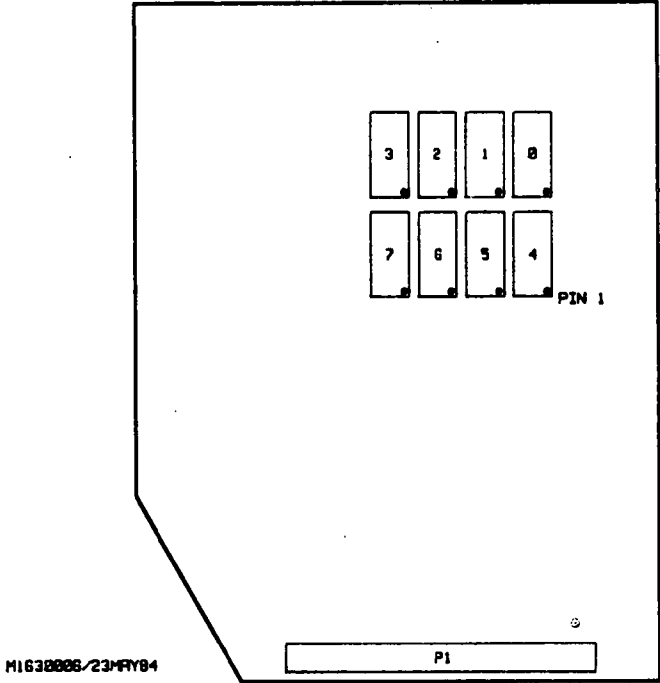

FIGURE 5. ROM Locations
- 10. Install new ROMs in locations shown in Figure 5.